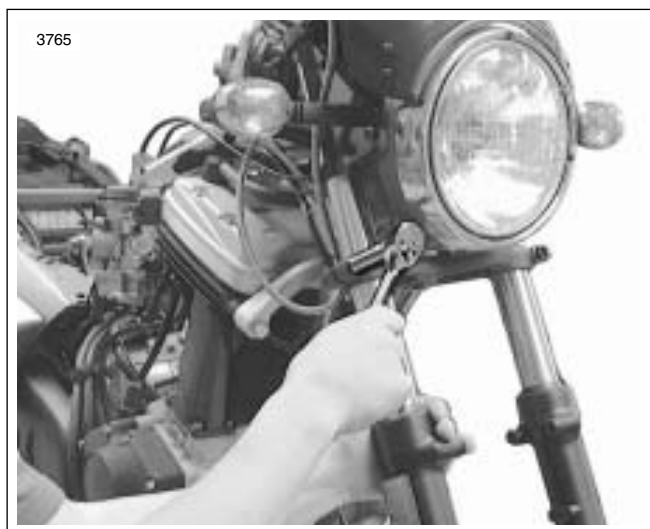

Figure 2-65. Upper and Lower Triple Clamp Pinch Screws
6. See Figure 2-65. Loosen the large pinch screws on both the upper and lower triple clamps.